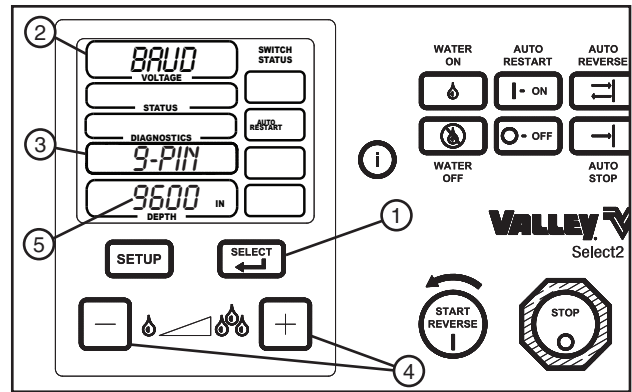

Figure 23-2
2. Press the SELECT button 1 time to access the baud rate setup, BAUD should appear in the voltage display. See figure 23-2.
9-PIN should be blinking in the information display. See figure 23-2.
3. Use the application depth buttons to adjust the baud value to 9600. See figure 23-2.